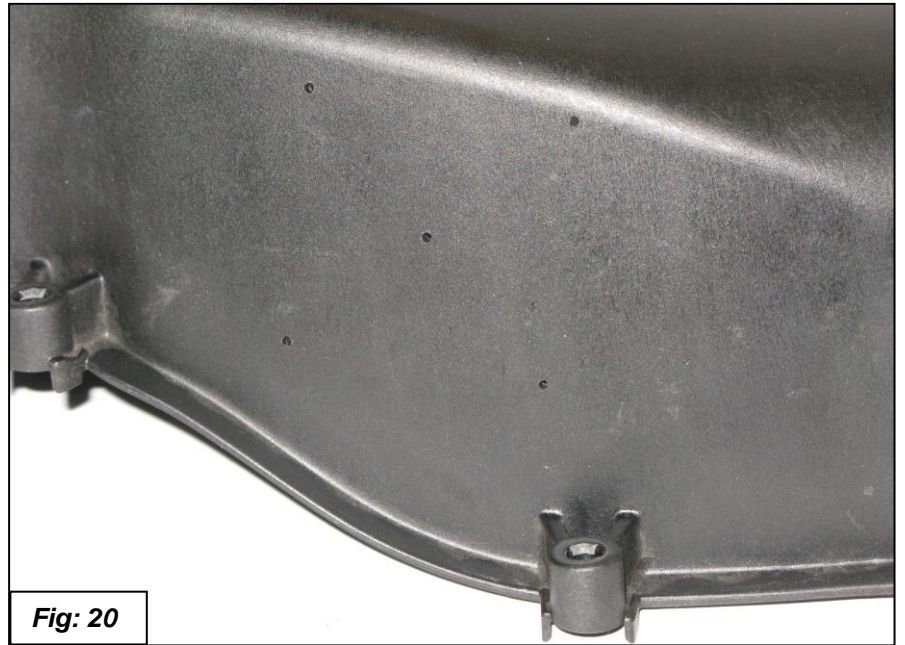

Fig: 20
14. Drill pilot holes thru from the inside of the air box lid. See figure 20.